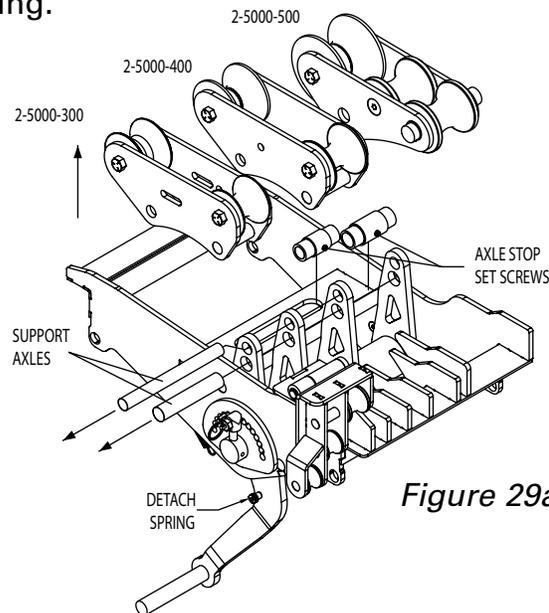

Figure 29a
1. Detach the extension spring from the lever arm and raise the rollers to the upright position (see Figure 29a).